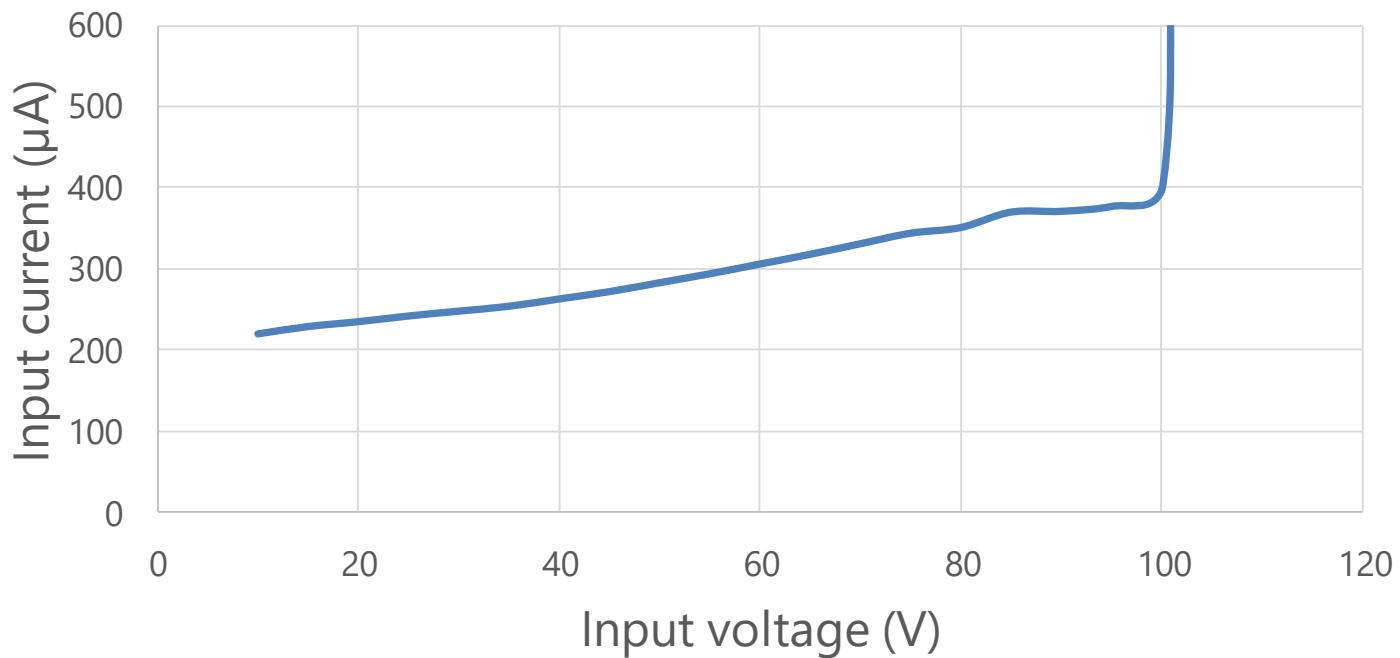

Figure 66: Battery current consumption in sleep during power saving mode depending on the battery voltage
- $P_0 = SleepPower = Sleep Current * Battery Voltage = 280\mu A * 48V = 13.4mW$. The *SleepPower* can be found with the Figure 66: Battery current consumption in sleep during power saving mode depending on the battery voltage. For a 48V battery, as 280 μ A are drawn, the board consumption is 13.4mW.